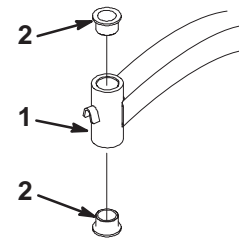

Figure 81
4. Insert a pin punch into the mounting tube and carefully drive out the bushings (Fig. 81). Clean the inside of the mounting tube.